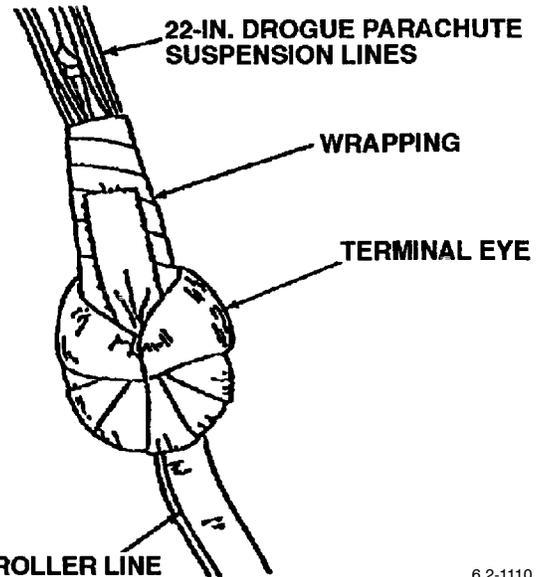

Figure 5. Drogue Connecting Line
g. Anti-squid line for contamination, cuts, fraying, burns, loose or broken stitching, and security of attachment at canopy apex and terminal eye. (QA)
(1) Lines from canopy skirt hem to terminal eye for frays, ruptures, dirt, lumps, and hard or thin spots.
(2) Protruding inner core lines for presence of twists in individual lines.
(3) Security of attachment at the skirt hem.
(4) Condition of V-tabs at the skirt hem.
(5) Security and condition of wrapping at terminal eye.
i. Drogue connecting line for contamination, cuts, fraying, burns, loose or broken stitching, and attachment of connecting line to 22-in. drogue parachute eye (Figure 5). (QA)
a. Ensure that all apex suspension lines on 5 ft. drogue parachute are encircled by a Lark's head knot formed by connecting line. (QA)